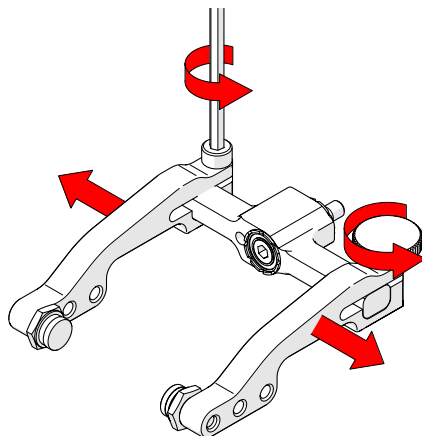

Fig. 59 - Remove arms
2. Loosen the probe holder arm adjustment knob and arm clamp screw. Slide the arms from the yoke (Fig. 59).